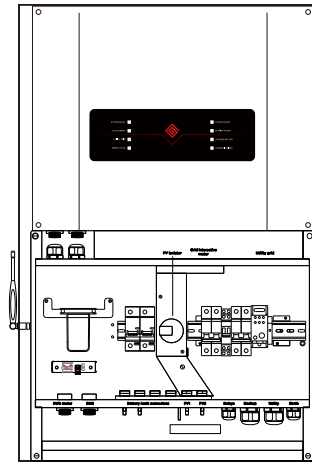

Figure 7: Mounting the Inverter
- Screw the antenna into the SMA connector on the left side of the Inverter as shown in Figure 7.